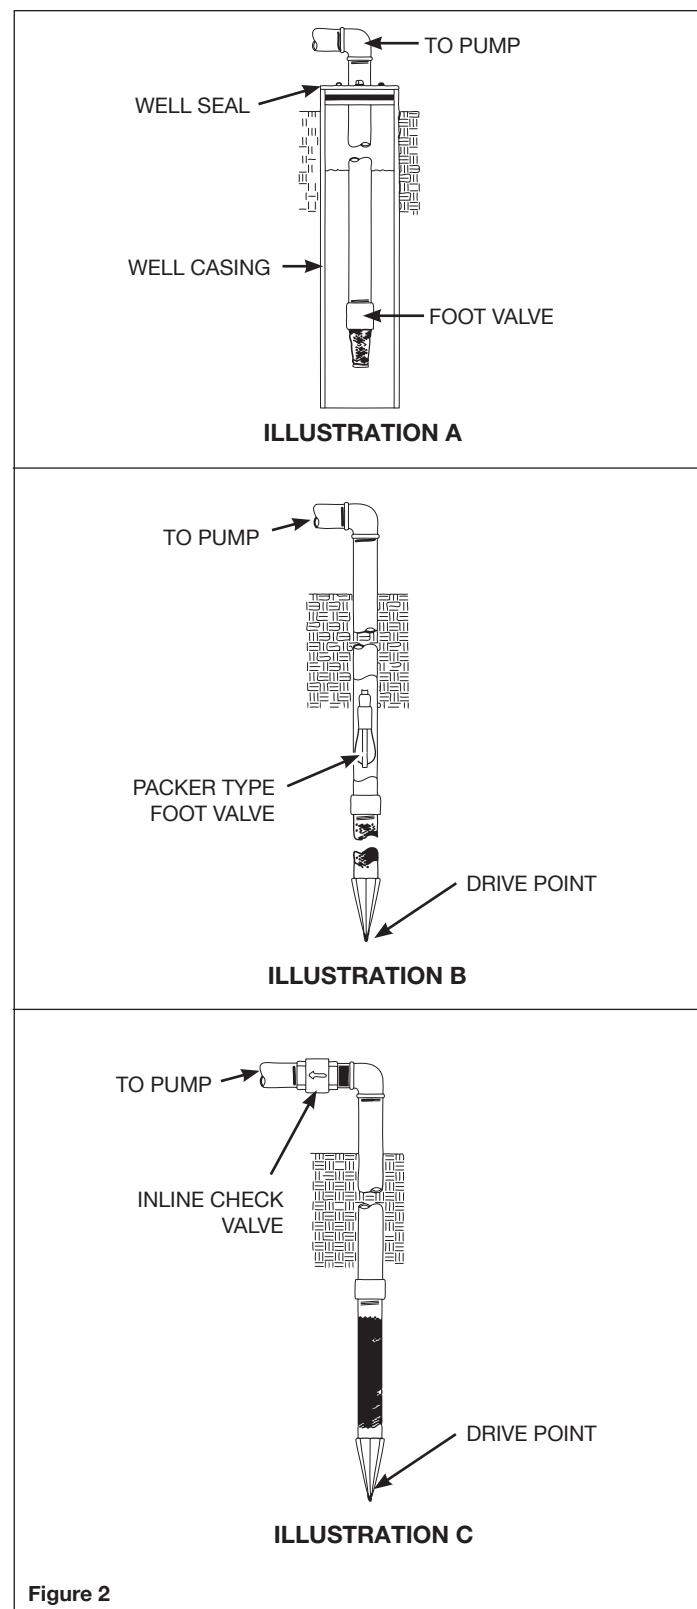

Figure 2
A shallow well jet assembly can be used with the deep well pump when the pump is located 25 feet vertically of the water level (See converting to shallow well pump on page 6). Shallow well installations have only one pipe between the pump and water supply (Figure 2).
1. Install a foot valve on the first section of pipe (Figure 2, Illustration A).
**NOTE:** A packer type foot valve can be installed in the well (Figure 2, Illustration B). This type of foot valve allows the piping to be filled with water when priming and makes the inlet pipe much easier to test for leaks. Follow the manufacturer's instructions when installing the packer type foot valve.
As an alternative, an in-line check valve can be used with a driven well (Figure 2, Illustration C). The pipe between the check valve and the water level will always be under a vacuum.